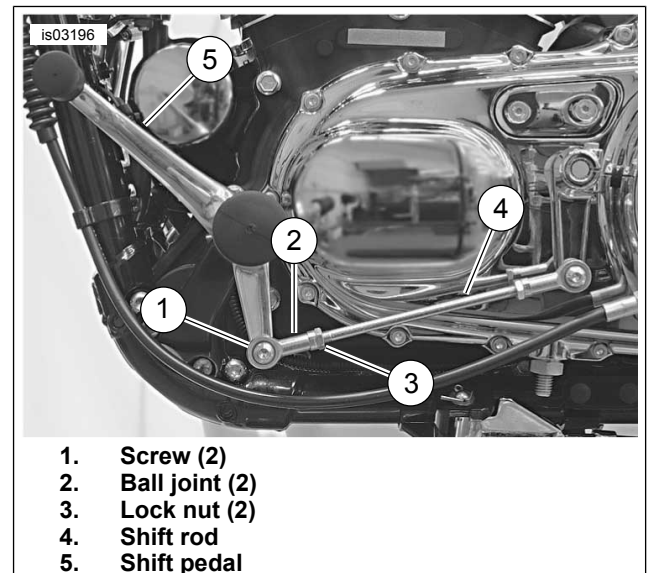

Figure 5. Adjusting Shift Pedal
If the gears do not engage fully or the toe shifter travel is incorrect, the shift linkage must be adjusted. See Figure 5.
- See Figure 5. Remove screw (1) securing the ball joint (2) to shift pedal (5).
- Turn ball joint or shift rod (4) to adjust rod length. Temporarily attach ball joint to shift pedal and check pedal angle. Make sure an equal number of threads are visible on both ends of shift rod.
- When pedal angle is at 45 degrees, install screw (1). Tighten to 13.6–20.3 N·m (120–180 in-lbs).
- Holding shift rod (4) so that it does not turn, tighten locknuts (3) on each end securely.